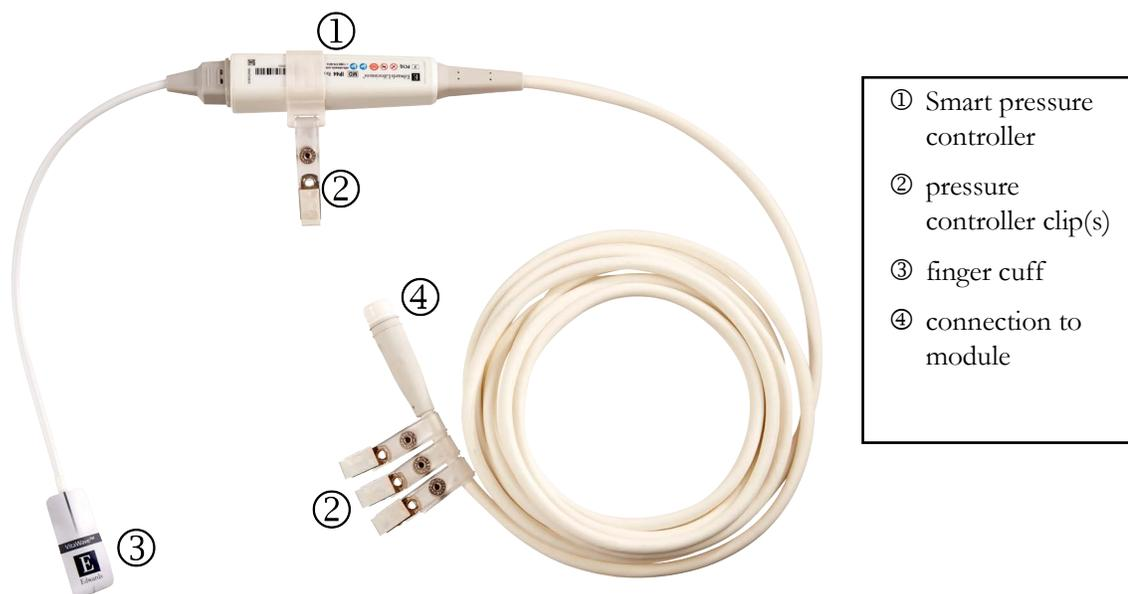

Figure 4-3 Smart pressure controller connections and clips
The Smart pressure controller is clipped near the patient and connects to the PC1Q cable port on the module on one end and compatible finger cuff on the other end. See figure 4-3.
- 1 Insert the Smart pressure controller cable (④ in figure 4-3 on page 34) into the PC1Q cable port of the module (① in figure 3-3 on page 23).